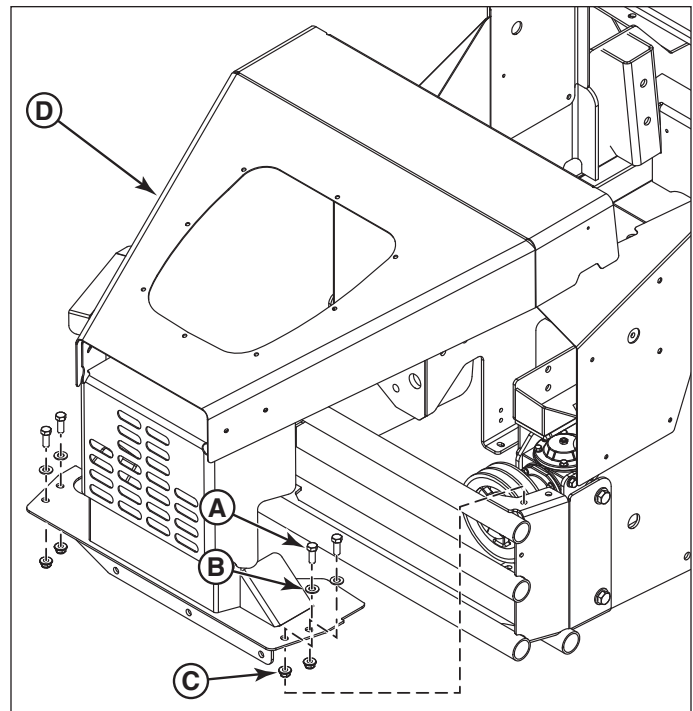

Figure 3. Remove the Rear Shield and Hood Assembly
5. Remove the four (4) 3/8-16 X 1" bolts (A, Figure 3), and 3/8 SAE washers (B) and 3/8-16 hex nylock flange nuts (C) that secure the rear shielding and hood assembly (D) and flywheel guard, from the rear bumper of the machine. Discard the nuts.
19. Re-install the rear shielding and hood assembly (**D, Figure 3**) and secure in place using the four (4) 3/8-16 X 1" bolts (**A**), 3/8 SAE washers (**B**) and 3/8-16 hex nylock flange nuts (**C**).